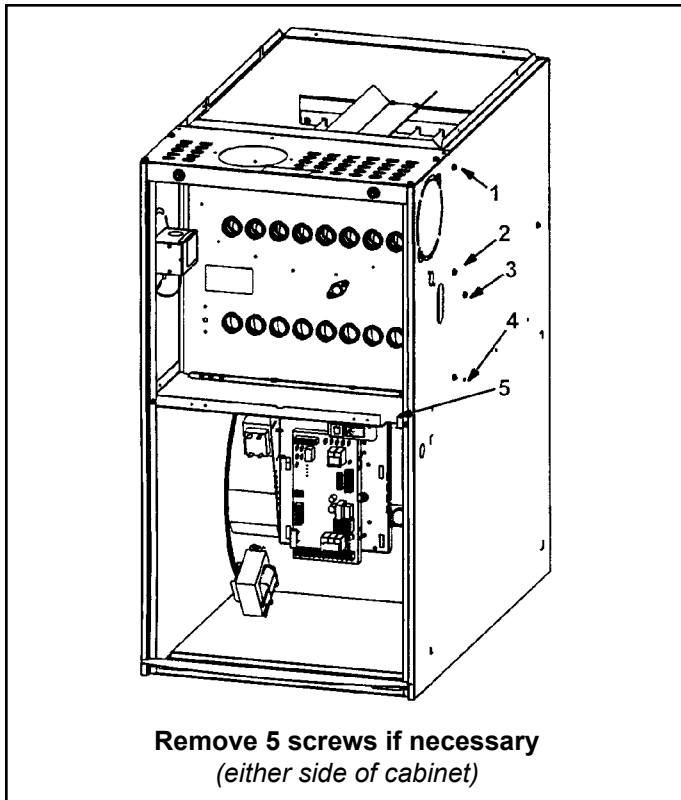

Figure 41.
10. Remove heat exchanger. It may be necessary to spread cabinet side to allow more room. If so, remove five screws from the left side or right side of cabinet. See Figure 41.